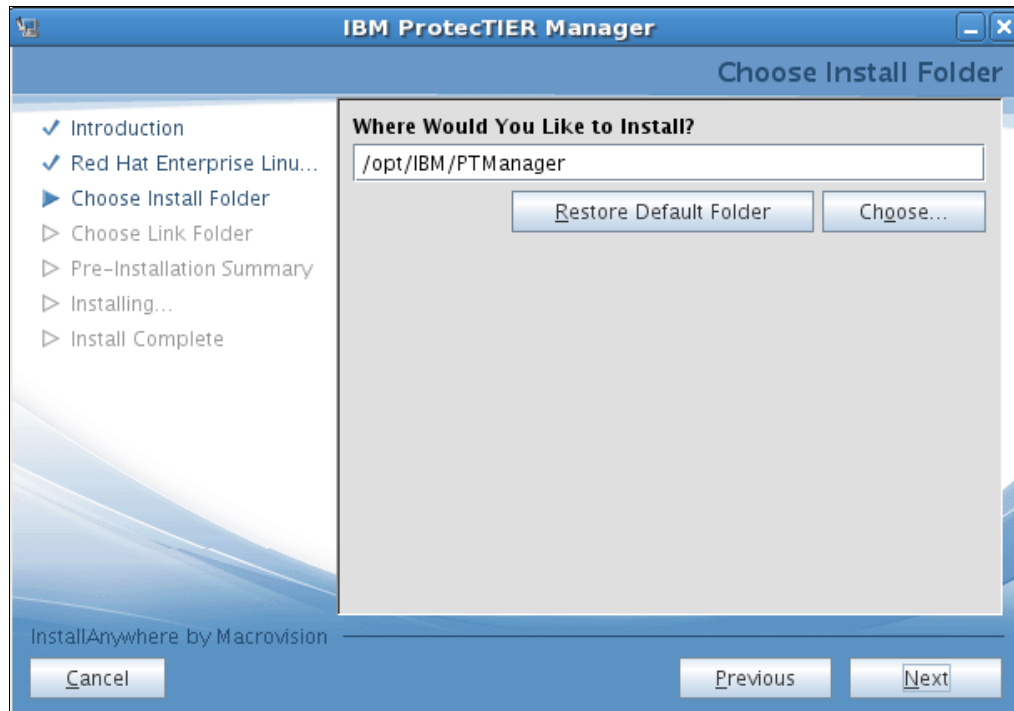

Figure 5-13 Choose Install Folder
10. Read the license agreement, select **I accept the terms of the License Agreement**, and click **Next**. The Choose Install Folder window opens (Figure 5-13).